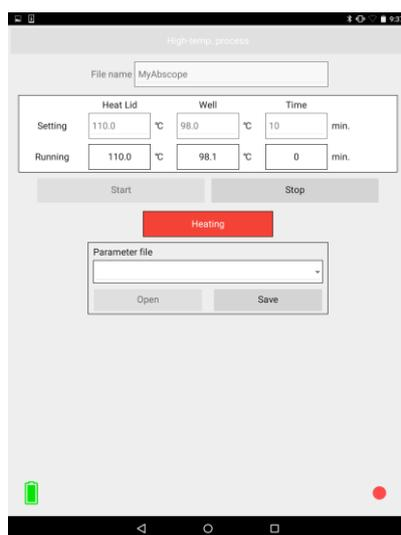

Figure 3-8: Indication of Heating state
- (8) The HeatLid temperature and Well temperature are updated in real time every 10 seconds while being raised to the preset temperature and during high-temperature treatment (Figure 3-8).